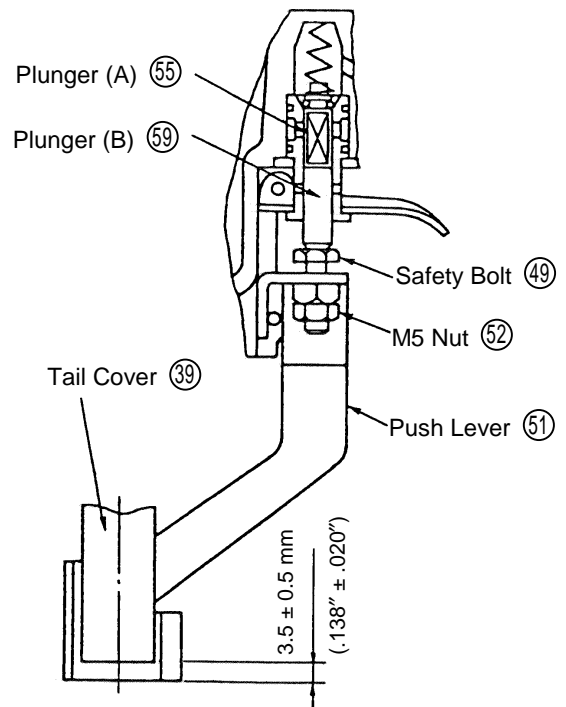

Fig. 14 Push lever assembly adjustment
- Be very careful in handling the Plunger Spring (53), as it can become twisted very easily
- To prevent the two O-Rings on the outside of the Valve Bushing (56) from being damaged when inserted into the Body, carefully apply grease to the Body hole and the outer circumference of the O-Rings prior to assembly.
(c) Adjustment of the Push Lever (51) (see Fig. 14):
- The Push Lever (51) can be adjusted by loosening the M5 Nut (52) and turning the Safety Bolt (49).
- Perform adjustment to a point where the resistance of Plunger (B) (59) pushing up Plunger (A) (55) is felt when the Push Lever is raised. At this point, the lower end of the Tail Cover (39) should be separated from the lower end of Push Lever by $3.5 \pm 0.5 \text{ mm}$ ($.138'' \pm .020''$).